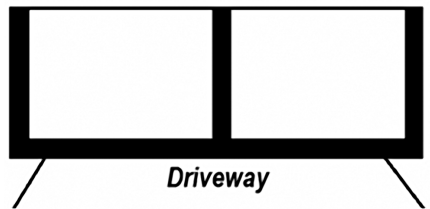

Fig. 5
- 8) Ensure the net is all the way to the ground, so that the black material is touching the ground or even slightly further down to create a ramp into the net (Fig 5).